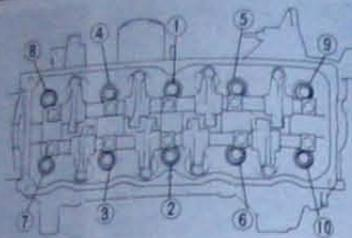

Fig 2.15 Cylinder head bolt tightening sequence (Sec 22)
- 15 Progressively tighten the cylinder head bolts to the specified torque in the sequence shown in Fig. 2.15 (photo).